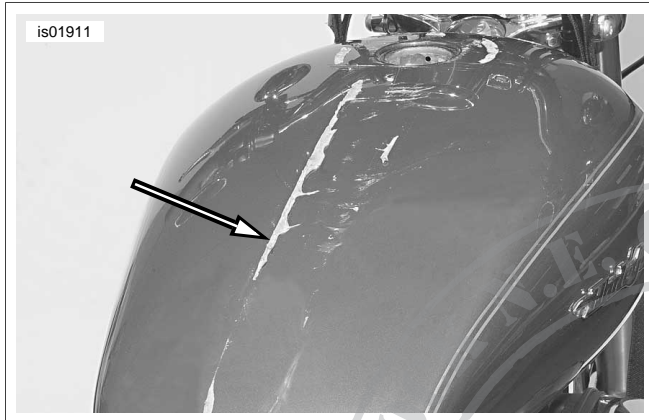

Figure 2. Removing the Adhesive Residue (XL 1200C)
8. See Figure 2. To remove any adhesive residue remaining on the tank surface: